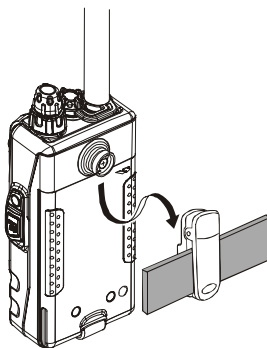

Figure 3
- ❑ To install the **VX-120** into the Quick-Draw Belt Clip, align the hanger with the Quick-Draw Belt Clip, and slide the **VX-120** into its slot until a click is heard (Figure 3).